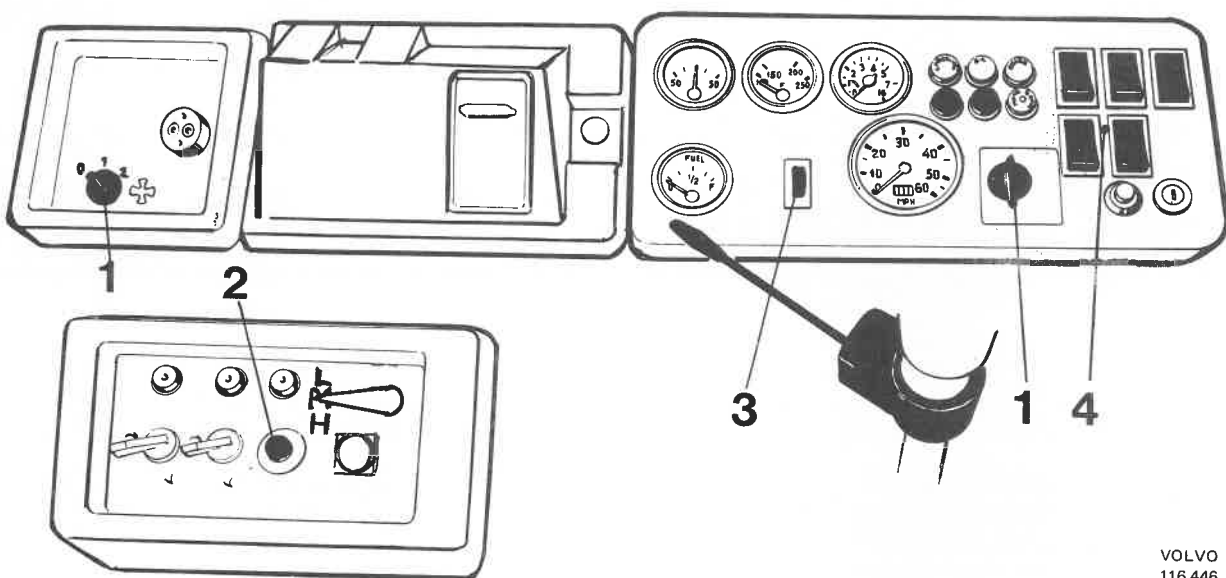

Fig. 36-3. Switches
The vehicle is equipped with three different types of switches: rocker, turn and push-push switches. The rocker type switches (4, Fig. 36-3) is used for the following four functions: lighting, windscreen wipers (2), washers and hazard warning lights.
The turn switches (1, Fig. 36-3) are used for car heating and black-out function. The switch for the car heater motor has three positions: 0 = Off; 1 = Full output; 2 = Half output.
The push-push switch (2, Fig. 36-3) engages and disengages front-wheel drive.
The rheostat (3, Fig. 36-3), is wired up in such a way that when the ignition switch is switched on the lighting power can be regulated for the following components: fuel gauge, ammeter, speedometer, temperature gauge, oil pressure gauge and the switches for the washers and windscreen wipers.